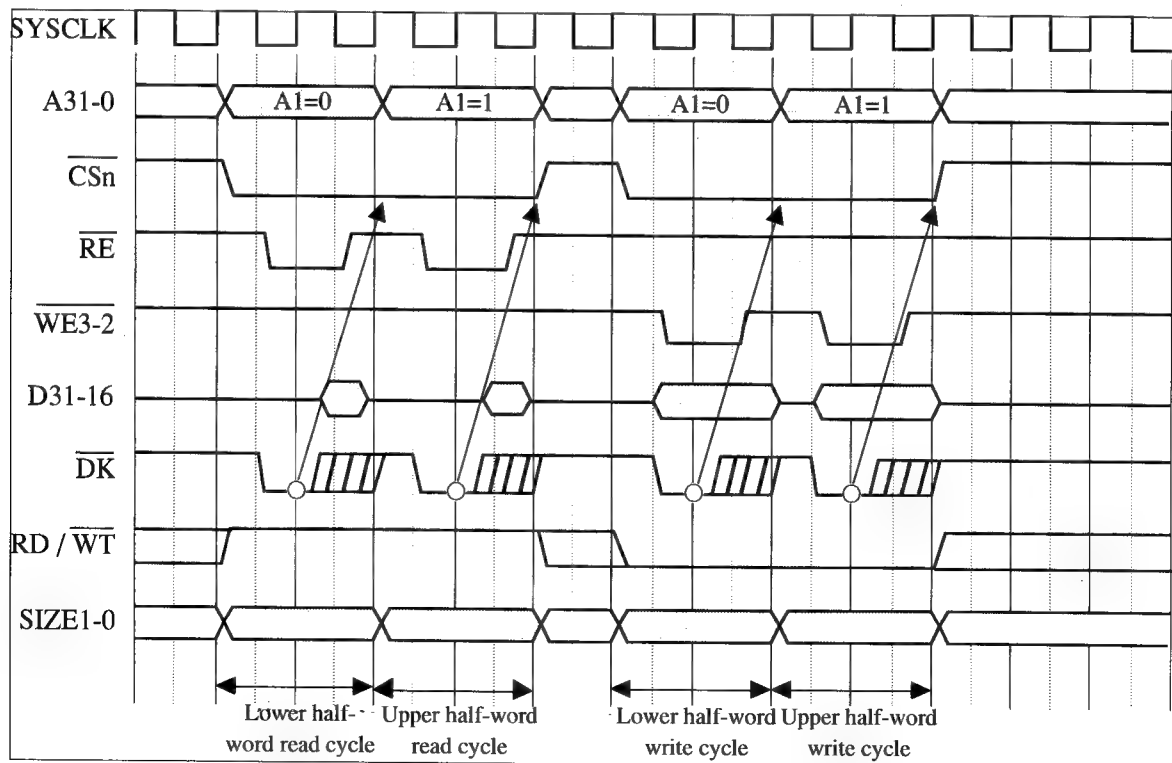

Fig. 5-8-9 Timing for Bus Access by 16-bit Bus Handshaking
Fig. 5-8-9 is a timing chart for an access with a 16-bit bus and handshaking specified. When handshaking is specified, the data acknowledge signal (DK) is sampled at the rising edge of SYSCLK, and if it is asserted the bus access ends at the next cycle. Note that when the DK signal is found to have been asserted, it is not sampled in the next cycle. Bus access termination by handshaking is valid only in synchronous mode.